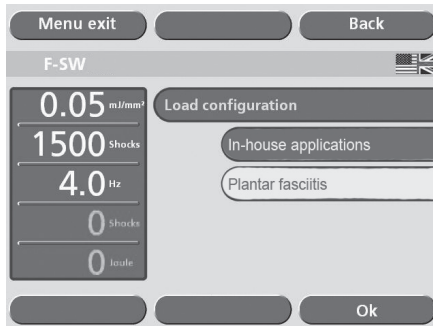

Fig.3-13 In-house applications
- Touch the “In-house application” button (Fig.3-13).